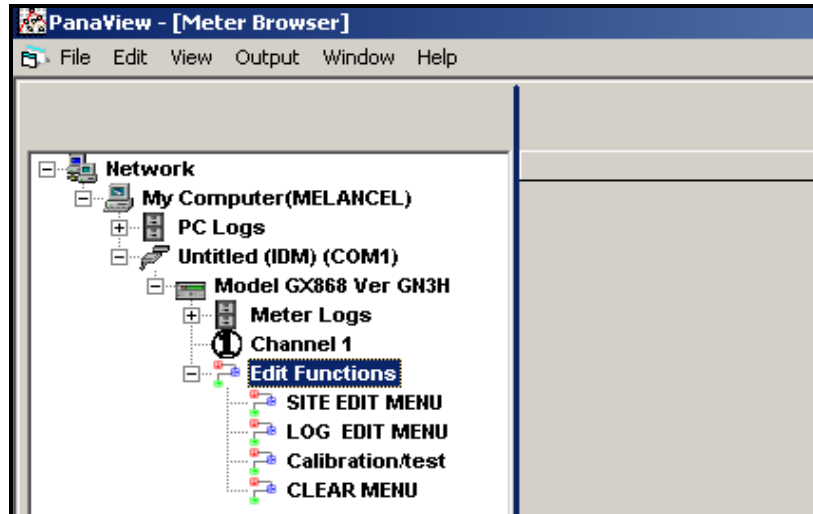

Figure C-19: Meter Tree with *Edit Functions* Option
- From the meter tree, expand the *Edit Functions* option. The window now appears similar to Figure C-19 below, with a list of available menus. The menus listed are those available on the meter.